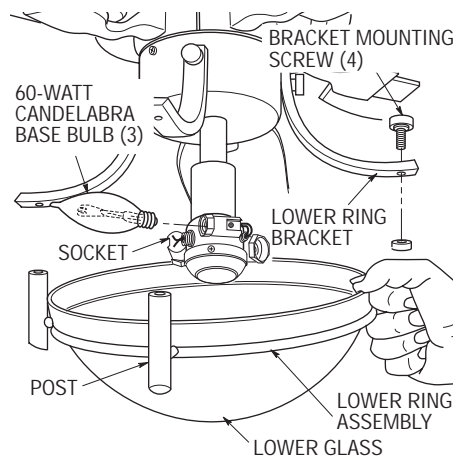

Figure 16
- ☐ 7. Screw three 60-watt (maximum) candelabra base bulbs into the light fitter sockets (Figure 16).
- ☐ 8. Place the lower glass in the lower ring assembly (Figure 16). Unscrew four bracket mounting screws from the four lower ring posts.
- 9. Securely grasp one of the lower ring posts and raise the lower ring up to one of the lower ring brackets. Secure the lower ring post to the lower ring bracket using a bracket mounting screw (Figure 16). Grasp the opposite post and secure the post to the opposite bracket using a bracket mounting screw.